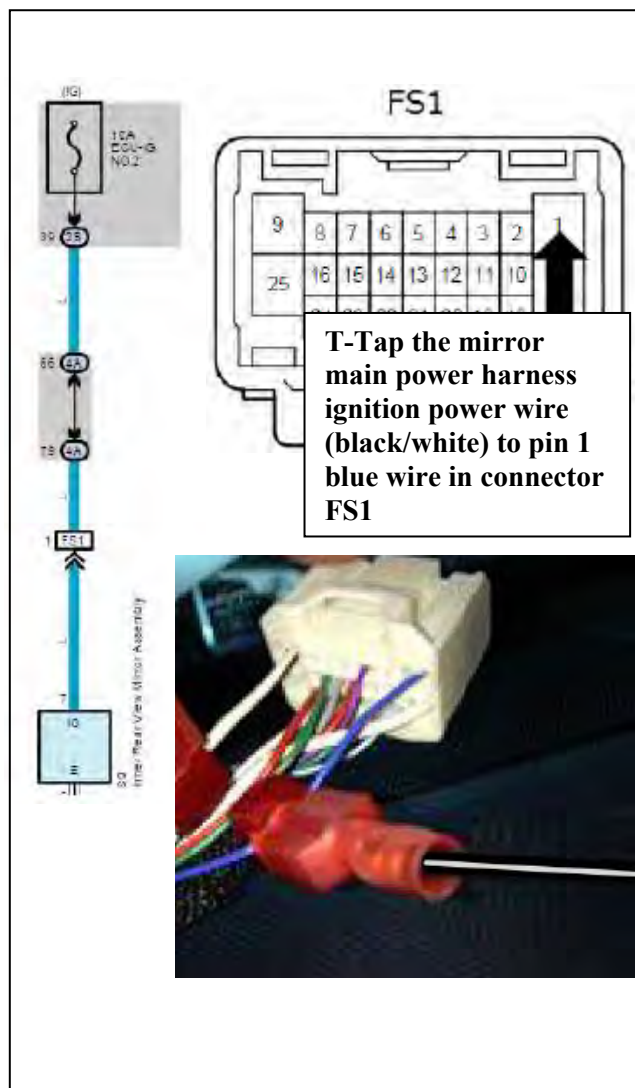

Figure 15
15. T-Tap the mirror main power harness ignition power wire (black/white) to pin 1 blue wire in connector FS1. See Figure 15.